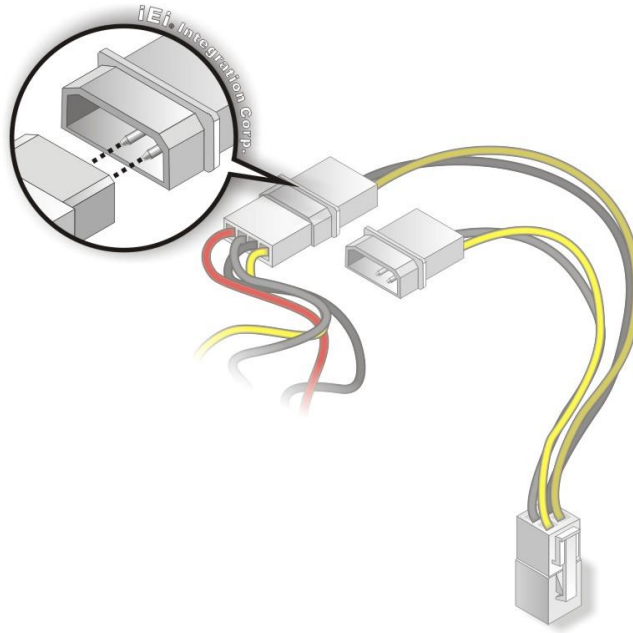

Figure 4-15: Connect Power Cable to Power Supply
Step 3: Connect power cable to power supply. Connect one of the 4-pin (1x4) Molex type power cable connectors to an AT power supply. See **Figure 4-15**